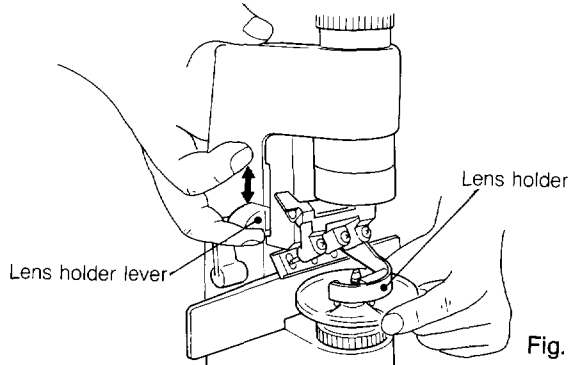

Fig. 2-12
② Push up the lens holder lever and lower it while holding the lens with one hand. (Fig. 2-12)
③ To remove the lens, hold it with your left hand and lift the lens holder lever fully up with the other hand. (Fig. 2-12)